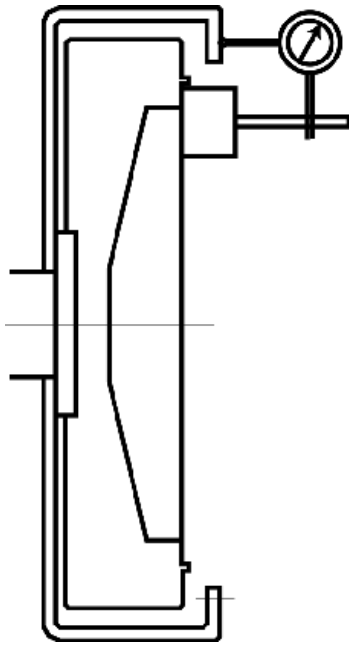

FIGURE 1
3.1.1 Check flywheel to housing face runout. (See Figure 1)